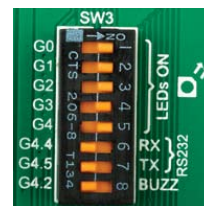

Figure 6-6: SW3.1 through SW3.5 switches are used to enable GROUP LEDs
specified by the manufacturer. The current varies from 0.2mA to 20mA, depending on the type of the LED and the manufacturer. The mikromedia™ workStation v7 board uses low-current LEDs with typical current consumption of 0.2mA or 0.3mA. Board contains 40 LEDs which can be used for visual indication of the logic state on PORT pins. An active LED indicates that a logic high (1) is present on the pin. In order to enable GROUP LEDs, it is necessary to enable the corresponding DIP switch on **SW3** (**Figure 6-6**).